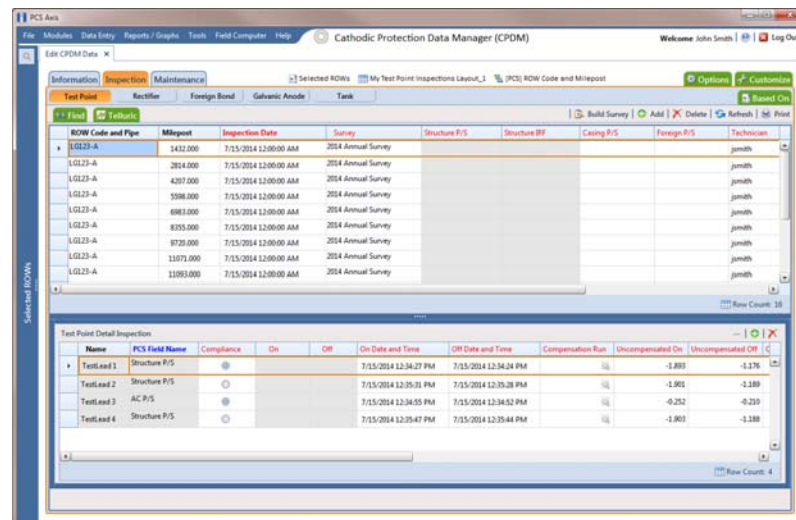

Figure 14-17. Edit CPDM Data
- 3 Click **Test Point**  and then the **Inspection** tab  to open the *Inspection* grid. Test points eligible for compensation include voltage measurements in the fields labeled *Uncompensated On* and *Uncompensated Off* in the *Test Point Detail Inspection* mini-grid as shown in the following figure (Figure 14-17).